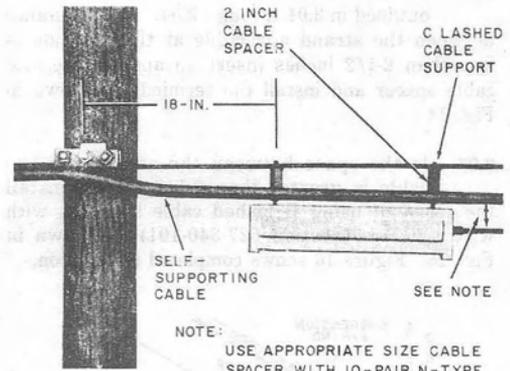

Fig. 13—Locating Strand Mounted Terminal
3.02 Whenever possible locate the terminal to the right of the pole and at a distance of 18 inches between the cable suspension bolt and the nearest terminal support (Fig. 13). The front of the terminal is placed on the cable side of the pole.
Note 1: On self-supporting cable use a B web splitter (AT-8273) and separate cable from strand (Fig. 13).